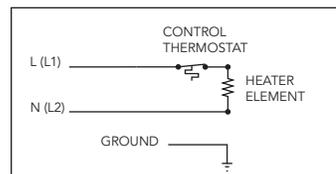

Figure 5 (left). Wiring schematic for single-phase heaters rated for up to 480 volts.
- If your heater is **single-phase** and **rated up to 480 volts**, your heater may be powered directly without the use of a control relay or contactor. See Fig. 5.